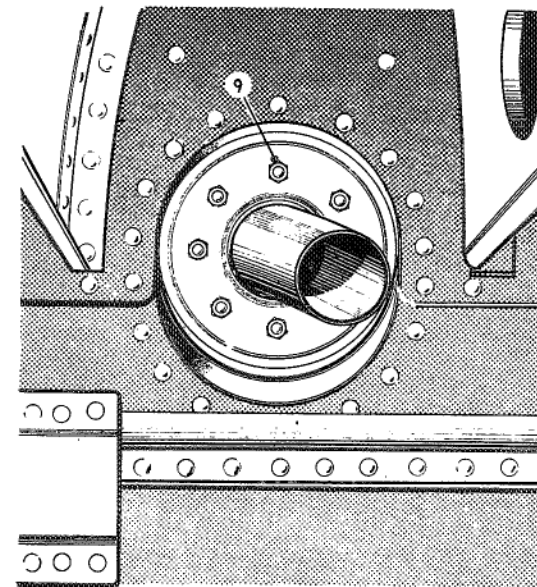

Fig. 12. Removal of blanking plate
- (1) Disconnect the transfer pipes at the wing tanks as described in wing removal (Sect. 3, Chap. 2).
- (2) Uncouple the other end of the pipes in the wheel bay (port and starboard) and remove these portions of the transfer pipes.
- (3) Uncouple the portions of the pipes that run into the centre tanks by releasing the bolts at the flanges (port and starboard).
- (4) Carefully withdraw the pipes from the tanks.
*Removal of blanking plate (fig. 12)*